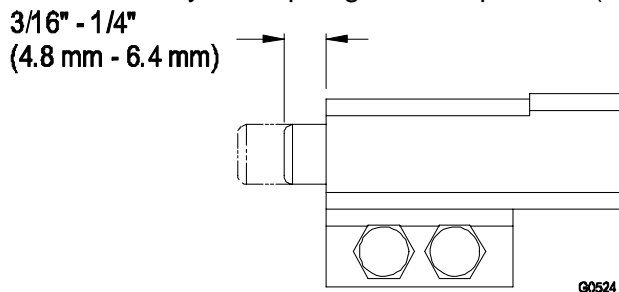

FIGURE 11
- Adjust all safety switches so plunger extends 3/16"-1/4" (4.8 mm-6.4 mm) from switch body when plunger is compressed (See Figure 11).